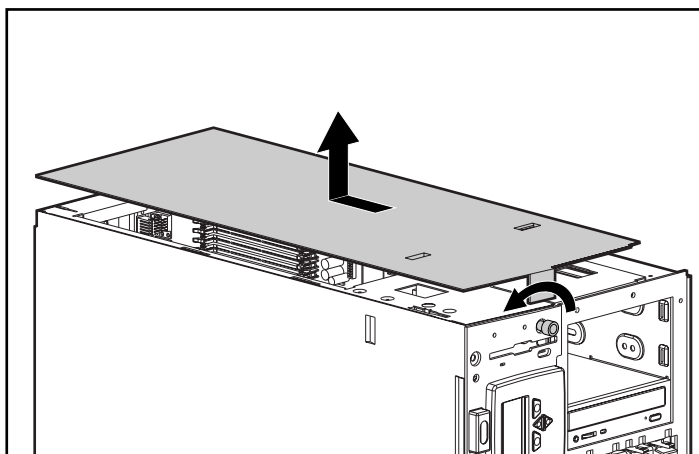

Figure 4-19. Removing the Side Panel
9. Reconnect the SCSI cables on the back of the drive cage. Refer to Figure 4-19 connector identification. Refer to *Cabling Guidelines for Compaq ProLiant 5500 Servers* for information on SCSI cabling.